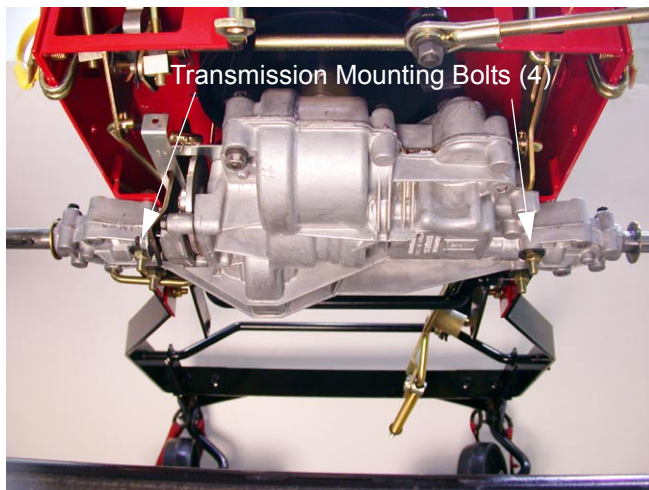

Figure 55
14.12. Using a ½ inch socket and opened end wrench remove the top locknuts, flat washers and screws securing the transmission to the frame. See Figure 55.